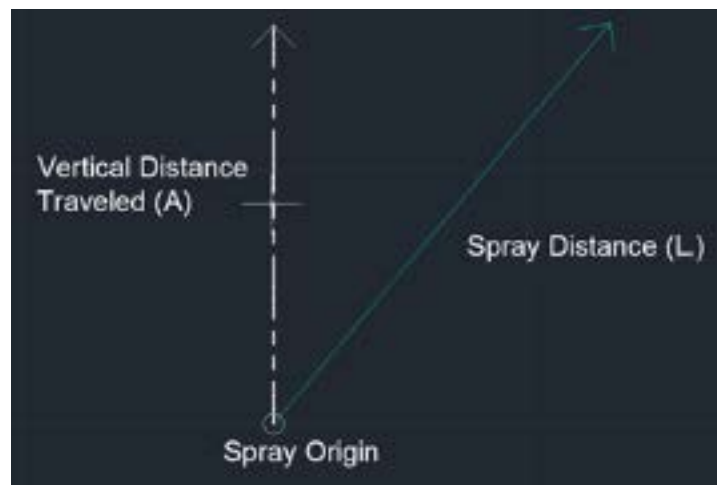

Figure 47: Reference for Deflected Spray
Using Figure 47 for reference, the Spray Distance (L) can be found with trigonometry when the Vertical Distance Traveled (A) and the nozzle's Deflection Angle (D) are known: